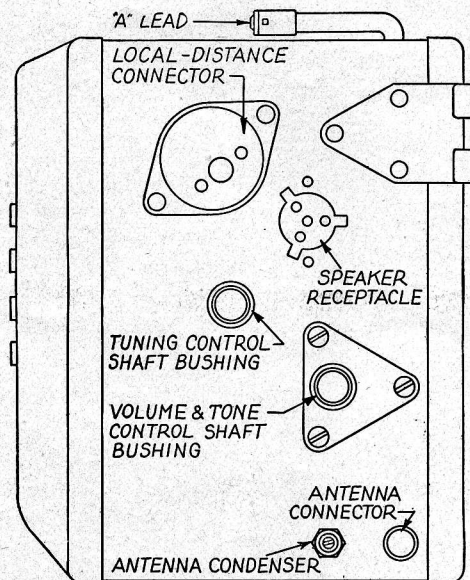

FIGURE 2
in the desired location and fasten the control mounting bracket securely by means of bolts and nuts. Seat the volume control shaft end in the proper bushing on the Receiver housing and fasten the shaft casing nut securely. (See Figures 2 and 3). Before coupling the tuning control shaft to the Receiver, turn the tuning control knob counter-clockwise to the mark below 55 on the scale. To couple the shaft, turn the knob counter-clockwise slowly until the shaft end is seated in the bushing and tighten the knurled casing nut securely with the fingers.
**ANTENNA CONNECTIONS**—When the radio is installed in a car having a top screen antenna, an under-car antenna, spare wheel antenna or an antenna having a similar low capacity (50 mmfd. to 450 mmfd.) — place the "connector plug" in the antenna lead connector and then plug the antenna lead into the antenna lead connector. (See Figure 2).
**TONE CONTROL CONNECTION**— The tone control switch is on the bottom of the control unit. Connect the black lead from the tone control switch to the Receiver. The location of the tone control connector is shown in Figure 2.